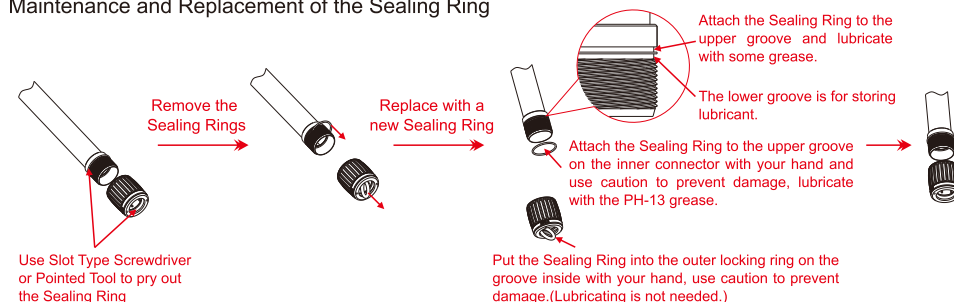

Fig. 12
- ② The Sealing Ring can be cleaned or replaced (Maintenance and Replacement as shown in Fig. 12)